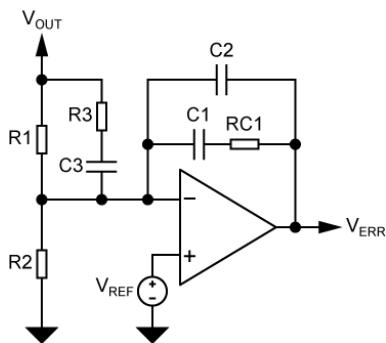

Figure 12. Type III Compensation Network
The power inductor and output capacitor create the resonant frequency at F_o . It is preferred to make the desired crossover frequency (loop bandwidth) greater than this at F_{co} with a phase margin (PM) of typically 50 degrees. The maximum phase boost, on a log scale, occurs approximately half way between the highest zero (F_{Z2}) and the lowest pole (FP_1). To be precise, it is at $\sqrt{F_{Z2} \times FP_1}$. The required compensation network for this is a double pole, double zero or type III network shown in Figure 12.